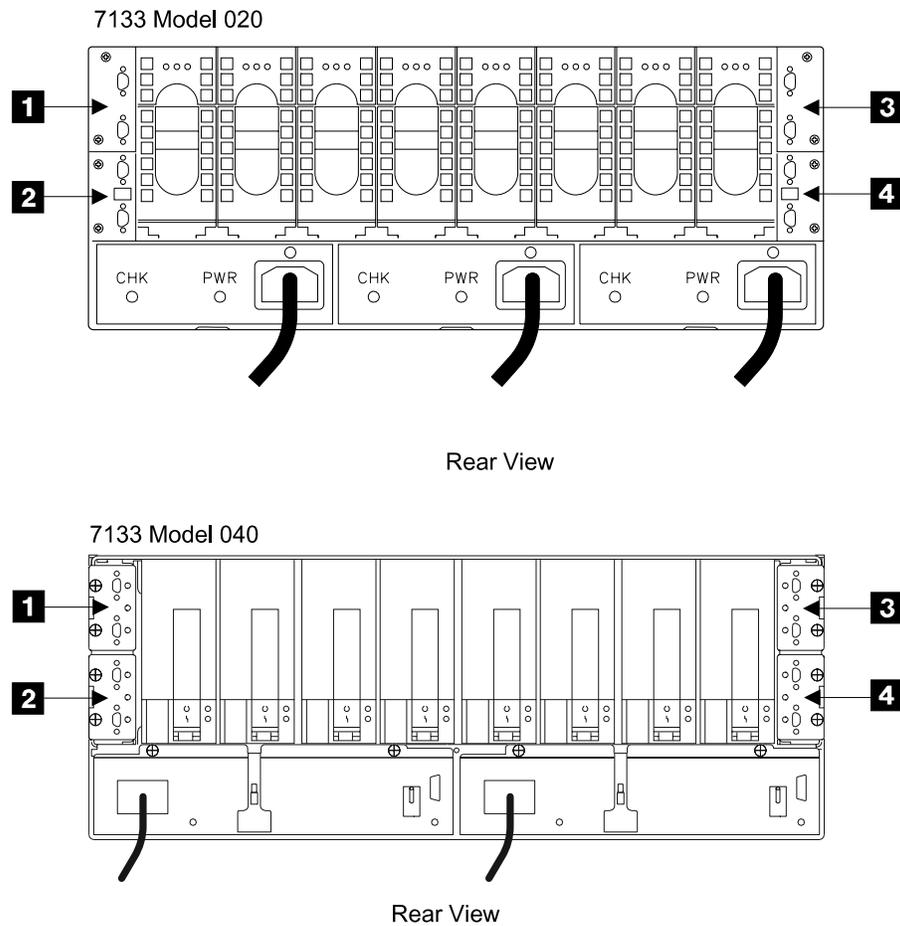

Figure 54. Bypass Card Locations (S007739p)
1. Open the rear cover of the 2105 Model 100 rack and locate the SSA DASD Model 020 or 040 drawer with the bypass card you will be removing. See “Locating a DDM Bay or SSA DASD Model 020 or 040 Drawer in a 2105 Rack” in chapter 7 of the *Enterprise Storage Server Service Guide, Volume 3*, and Figure 54 on page 45. in chapter 4, volume 2 of this book.